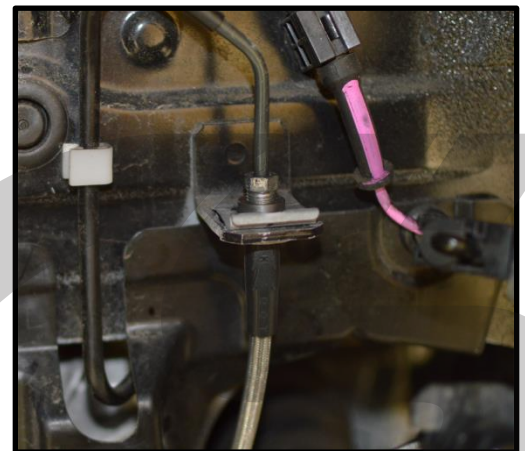

Figure 2h
- k) **Next tighten the 10mm fitting at the chassis.** Install the brake line into the chassis bracket and secure it with the original brake line clip shown in **Figure 2h**. Tighten to 10-15ft.lbs.